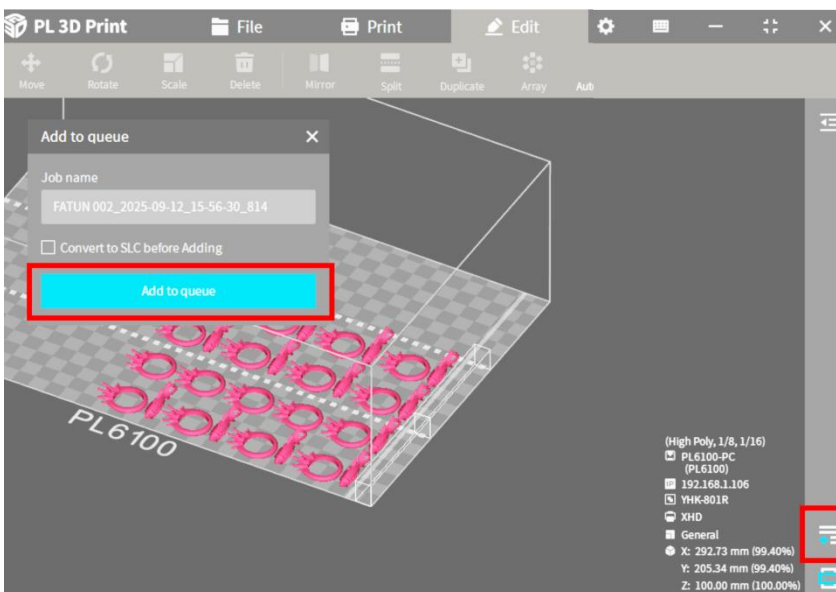

fig. 2-31 Add to Queue
- ③ Select **File** and click **Import**, to import files. Click the **Add File** on the right. Enter the task name in the **Add to Queue** dialog box. Click the **Add to Queue** button to transfer the print file to the printer. See figure 2-31.